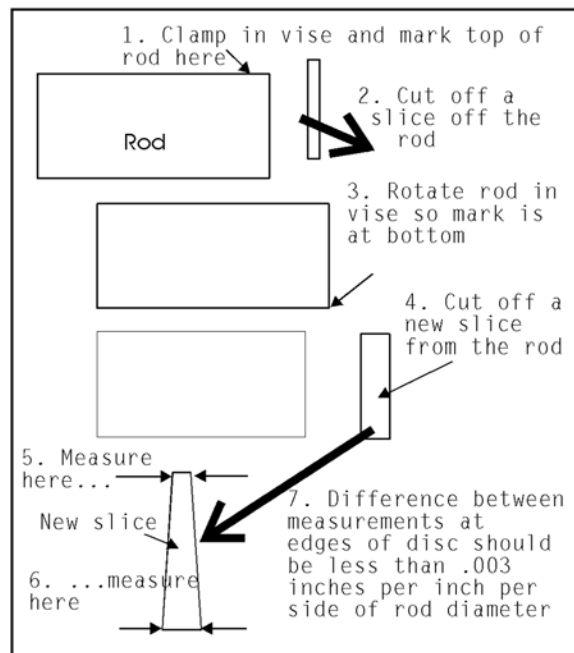

Figure 21: Making a test disc.
1. With the bar stock securely clamped in the vise, make a cut through the bar stock. (See Figure 21.)